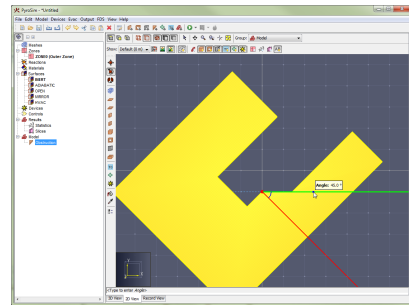

Figure 93. Define angle vector
5. Single-click a third point to define the **angle vector** from the first point to the third point (Figure 93).